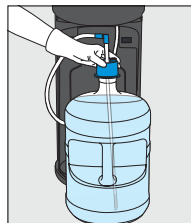

Figure 6
- (7) Slide the bottle adaptor over the neck of the bottle and push down to secure (Figure 6)